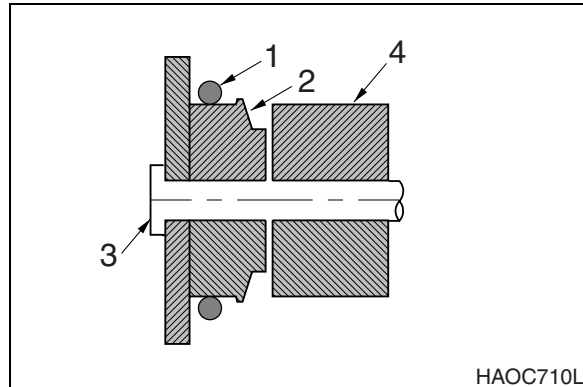

Figure 10
2. Roll the old O-ring (1, Figure 10) onto the boss (2) around the bucket pin (3). Remove the bucket pin and move the arm or bucket link (4) out of the way.
4. Realign the arm or link with the bucket pin hole and insert the bucket pin (3, Figure 10).
2. Roll the old O-ring (1, Figure 10) onto the bushing (2) around the bucket pin (3). Remove the bucket pin and move the arm or bucket link (4) out of the way.